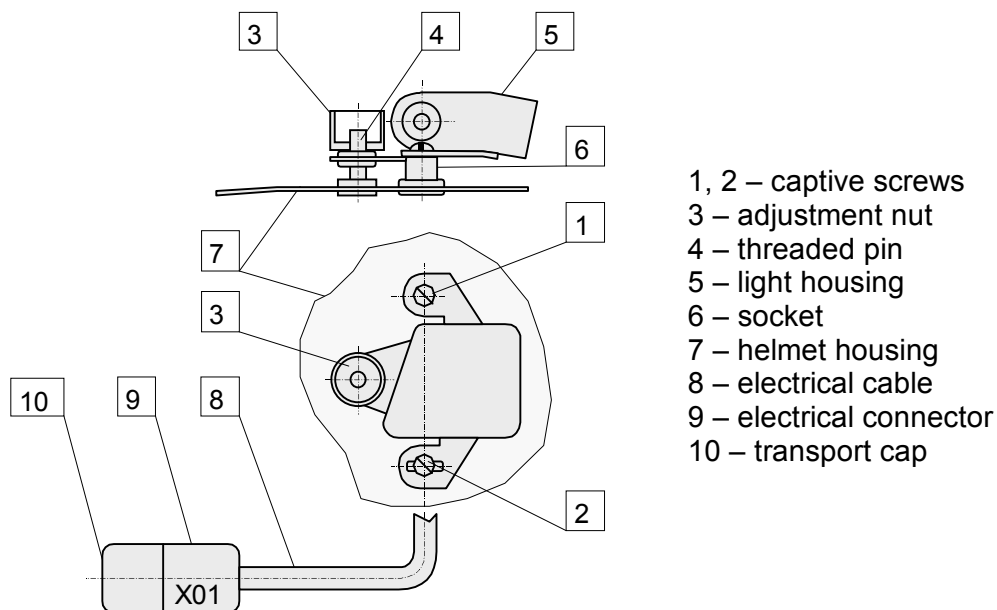

Fig. 4.10-1 Helmet Right Light CM-2П
Remove adjustment nut (3) from threaded pin (4) (see Fig. 4.10-1)